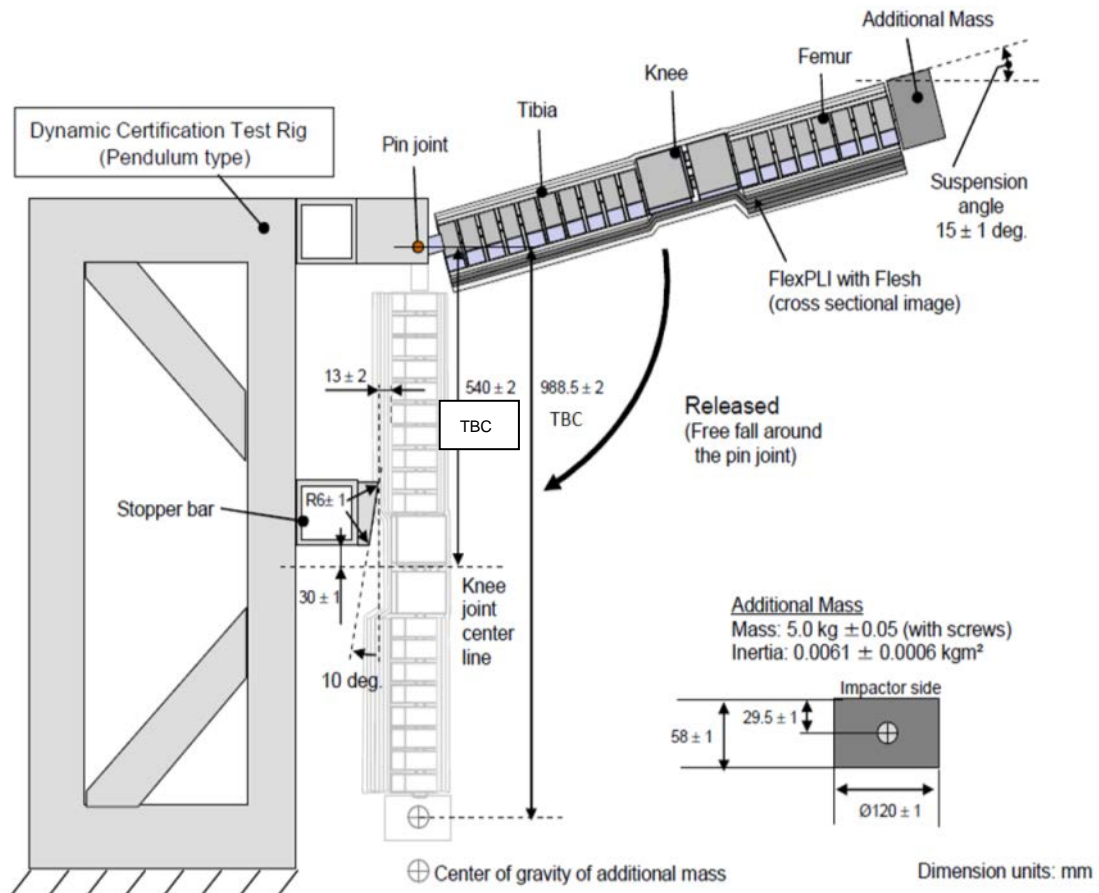
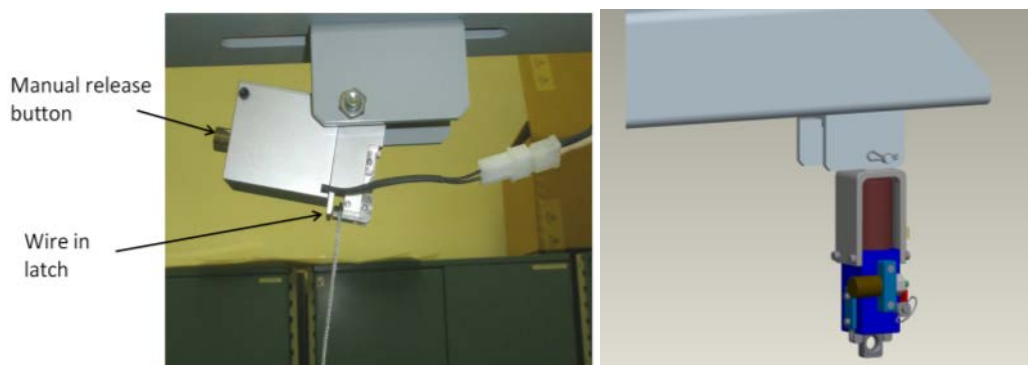

Figure 86 . Diagram of Dynamic Pendulum Fixture
Figure 94 . Examples of release latches
The dynamic pendulum certification test is carried out on the Dynamic Certification Test Rig, Part Nr 133-8400, as diagrammatically shown in Figure 86. Only 7 channels are required and must meet the proposed GTR9 requirement see Table 15. For assembly instructions of the test rig refer to 7.2.
Suspend the bare leg (without suit) on the fixture with the Pivot Hinge in the Pivot Clearance Block and the Shoulder Bolt (Figure 86, item 17 and 20). Check that the distance from the bottom of the Impact Block is 30 ± 1 mm above the top of the plastic blue Meniscus (Figure 60 item 2, Part Nr 133 – 5313) of the knee and 13 ± 2 mm from the front of the impact face (point nearest to the leg) to the impact
Next step is to make a loop of steel wire rope of the proper length, such that the drop angle matches the required suspension angle of $15 \pm 1^\circ$ above horizontal (Figure 86). Suspend the leg with the Pivot Hinge to the Pendulum Rig. The leg is lifted up to the release mechanism (Figure 94) and held in position with the steel wire rope attached to the ballast weight. Adjust the loop length to the required suspension angle of $15 \pm 1^\circ$. Check the angle with a digital inclinometer laid on the back of the knee. The steel rope is tied to the ballast weight via an eye bolt which can be used for fine height adjustment. The Pendulum Rig is now ready for running a test.